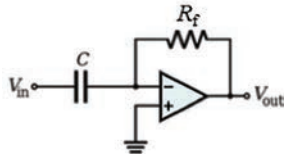

Figure 9.46 Ch 9: No. 24, self-test
24. Determine the output voltage for the differentiator shown in Figure 9.46, if R_f is $4\text{ k}\Omega$, C is $0.005\text{ }\mu\text{F}$, and V_{in} is a triangular input signal rating from -10 V to $+10\text{ V}$ at $15\text{ }\mu\text{s}$.